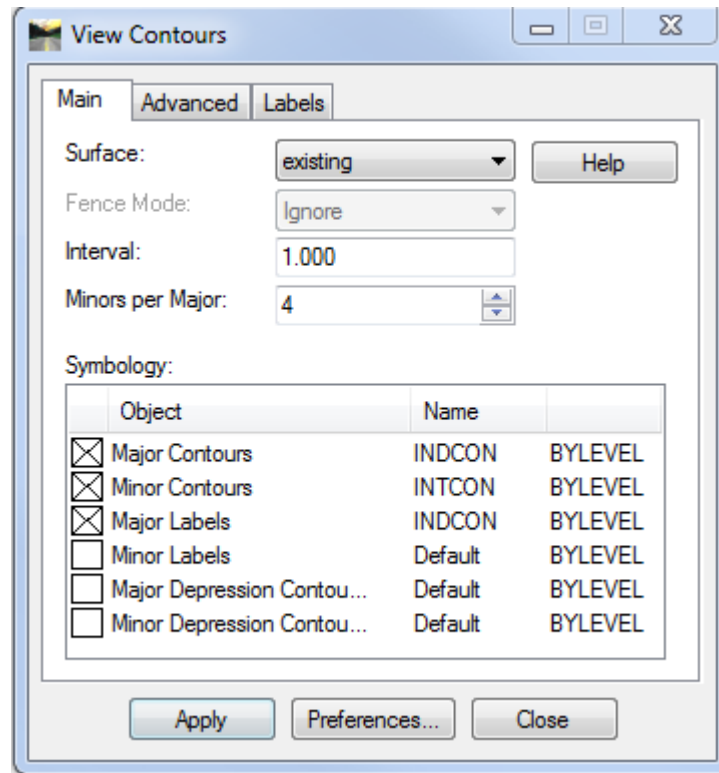

Figure 2-5 InRoads View Contours Dialog Box
- I. On the InRoads Main Menu Bar click on **Surface > View Surface > Contours** (Figure 2-5).